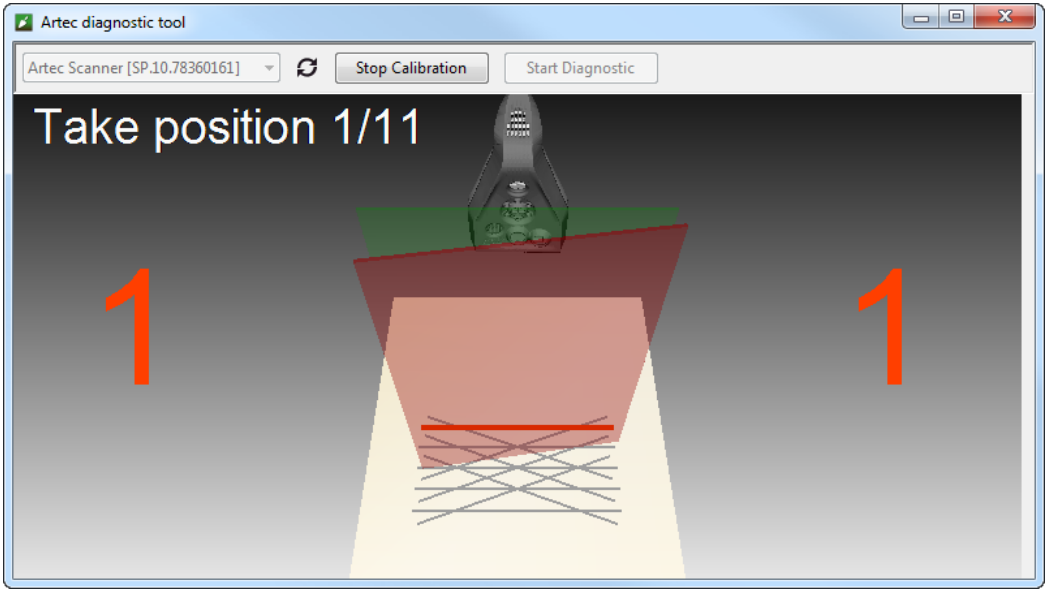

Figure 11.11: Moving calibration rig to position number 1.
7. Place the rig in its initial position such that the front edge of its base coincides with the color line numbered 1 on the pattern. As you do so, also keep an eye on the *3D View* window for a red plane (current position) and a green plane (target position)—see Figure 11.11. Once the red plane coincides with the green one, stop moving the rig and wait for the scanner to capture the plane.